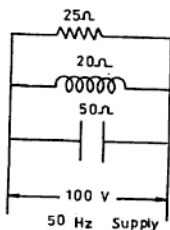

Fig. NE 11.38
- 11.38 A resistance of  $25 \Omega$ , and inductive reactance of  $20 \Omega$  and a capacitive reactance of  $50 \Omega$  are connected in parallel to each other and across a  $100 \text{ V}$ ,  $50 \text{ Hz}$  supply as shown in Fig NE 11.38. Calculate: